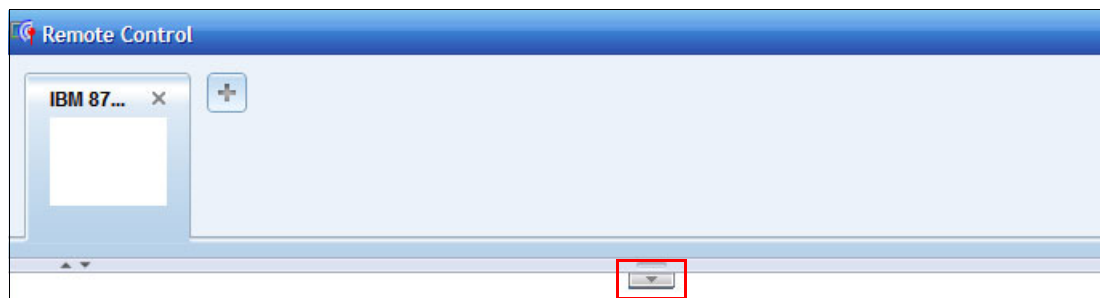

Figure 7-59 Remote Control console window
4. The console window opens as shown in Figure 7-59. You can now use the mouse and keyboard to operate with the server as though you were at the local console. Click the arrow on top of the console window to open the Remote Control toolbar.